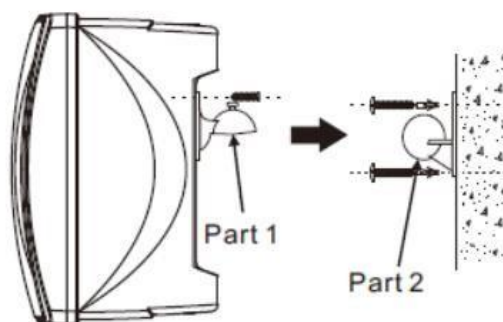

Fig. 1
- Fix the speaker and the part 1; select the appropriate position on the wall to fix the part 2. (Fig. 1)